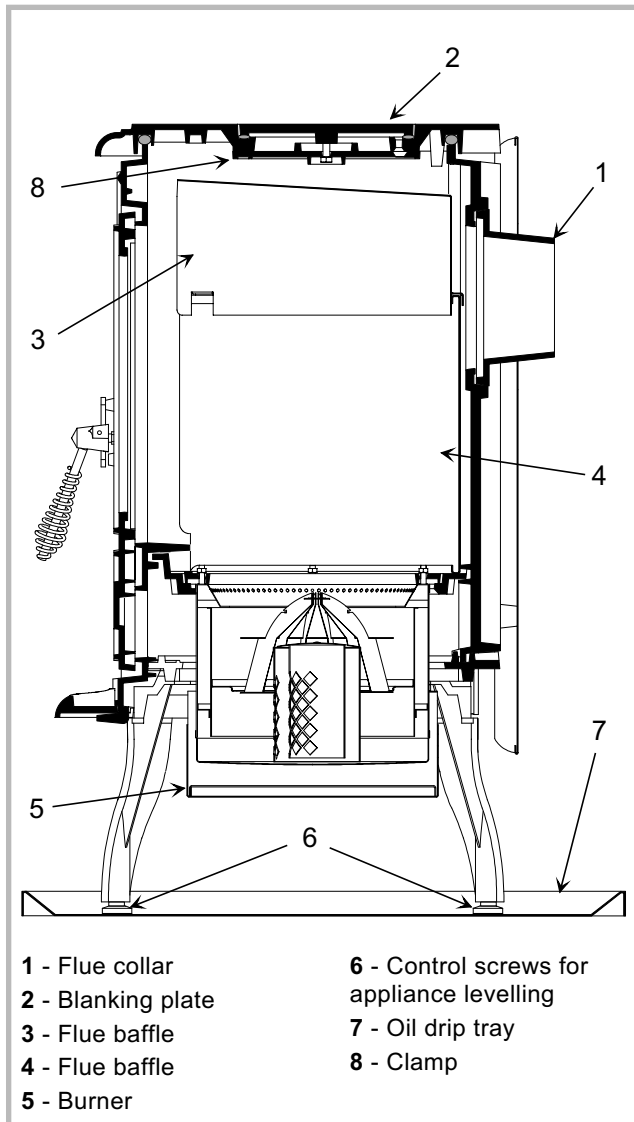

Figure 5 - Cross-section of the appliance
- Fit the screws and caps (rep 6, fig. 5) to the bottom of the stove legs.
- Put the stove on the oil drip tray (rep. 7, fig. 5).